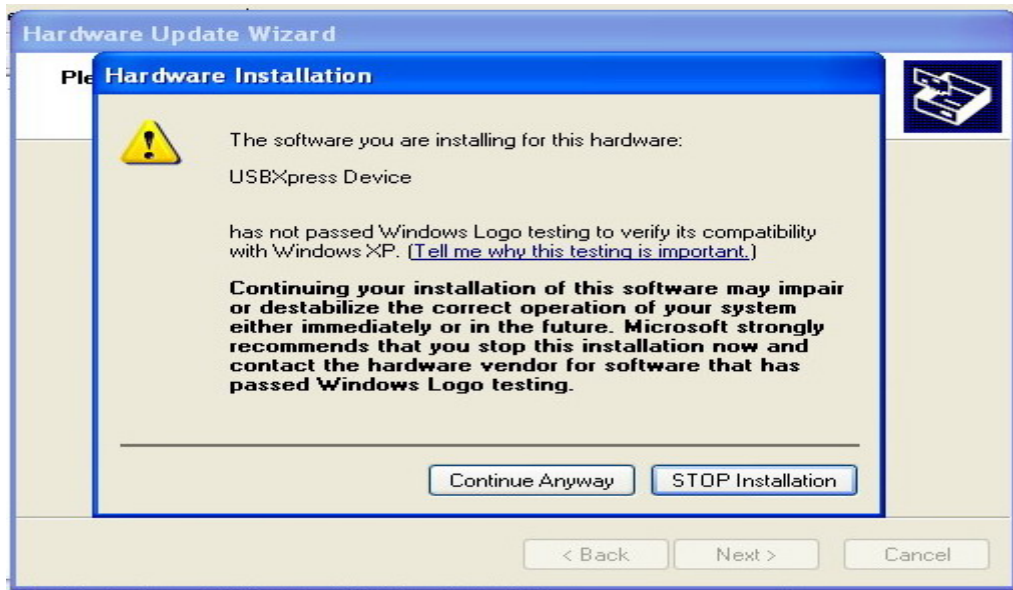

Figure 13
5.6 Next move, choose to still continue. Figure 13